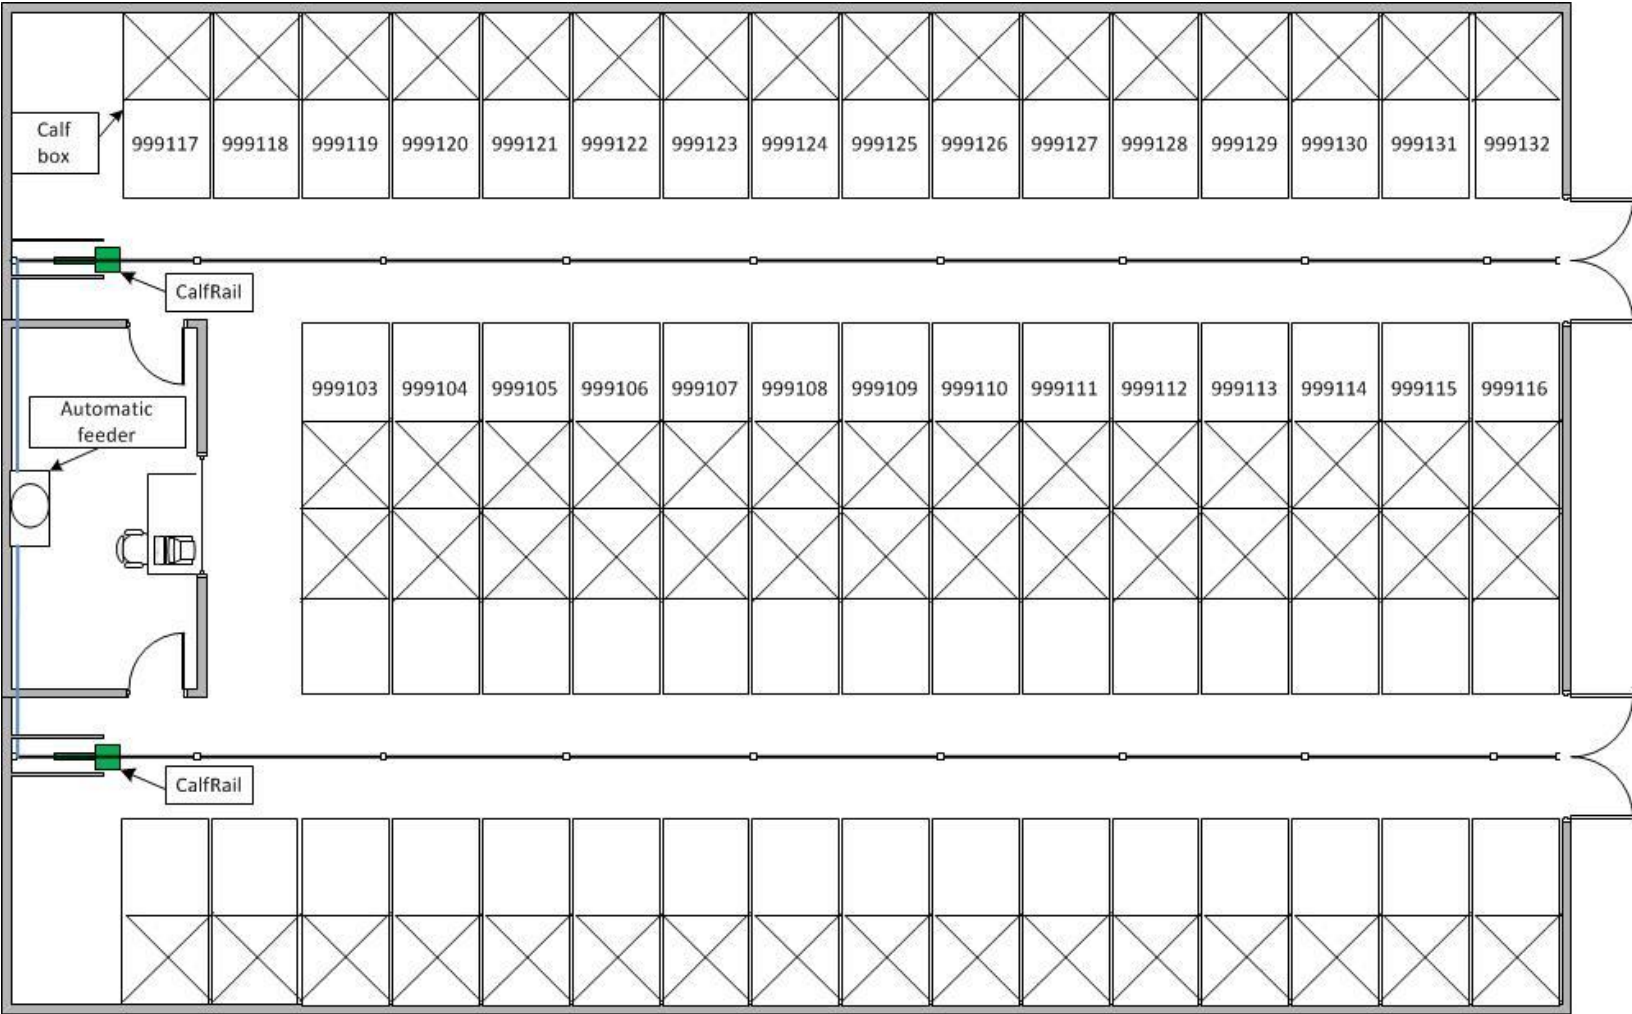

Figure 5: Farm with two CalfRail units with one automatic feeder
- Figure 5: Farm with two CalRail units with one automatic feeder